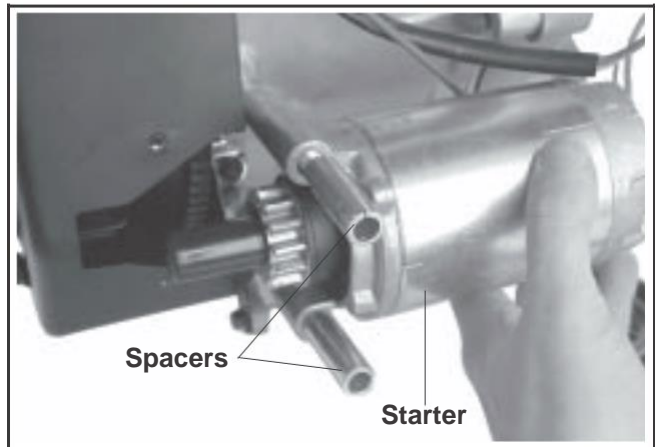

Figure 9-17. Removing Starter and Spacers.
- c. Slide the starter and spacers off the studs. Note position of ground lead (if used). See Figure 9-17.